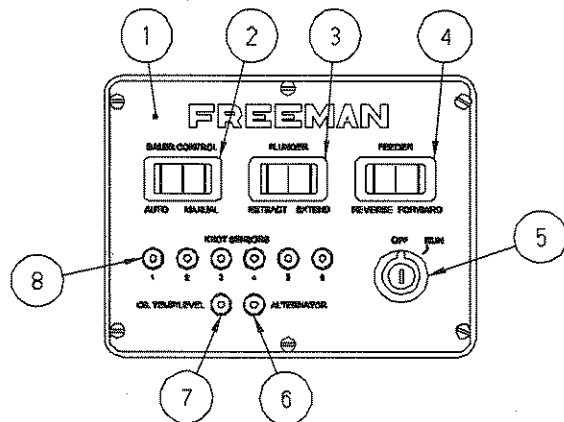

Figure 23
Starting with 1592 Baler S/N: 0616 the baler is able to operate without the remote control box, (figure 23); some of the functions are limited, but you are able to bale until the necessary repairs are made. On balers S/N: 0500 - 0615 the remote box was required for the baler to operate in automatic, diagnostic or manual.
4. Figure 23;
The feeder is reversible using the feeder control switch (item # 4, figure 23) mounted on the remote control box. The feeder control switch is a three position switch; Forward is maintained, neutral (switch centered) is maintained, & reverse is momentary. If the pickup and feeder stop rotating (plugged from overfeeding) press and hold the feeder control switch in the reverse position. At this time the feeder will reverse and the material that was plugging the feeder will be ejected forward onto the pickup. When the feeder control switch is released it will return to neutral and all feeder motion stops. Set the feeder control switch to the forward position. The feeder will then once again rotate forward and the crop should enter the feedfork area. NOTE: It is not necessary to switch the remote control box to manual to operate the feeder in reverse. The manual function on the remote control box is only for the plunger operation.
If the feedfork has become plugged and reversing the feeder did not clear the plug; the plunger can be advanced and retracted using the remote control box. Set the baler control switch (item # 2, figure 23) to manual. This stops all movement of the feeder and feedfork. Press and hold the manual plunger switch (item # 3, figure 23) in the advance position. The plunger will advance and clear the bale chamber of material. Release the manual plunger switch; set the baler control switch back to automatic. The plunger will retract, and the pickup, feeder, & feedfork will all start and in most cases operation can be resumed.